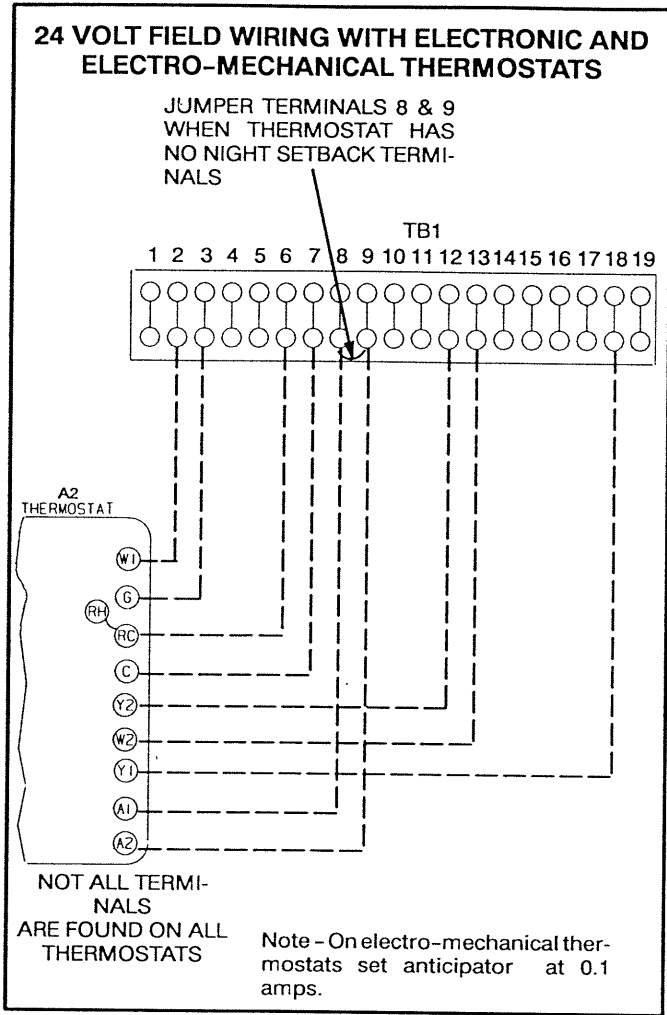

FIGURE 9
- 2- Install thermostat assembly in accordance with instructions provided with thermostat. See figure 9 for field wiring electro-mechanical and electronic thermostats. If using other temperature control devices or energy management systems see instructions and wiring diagram provided by manufacturer.